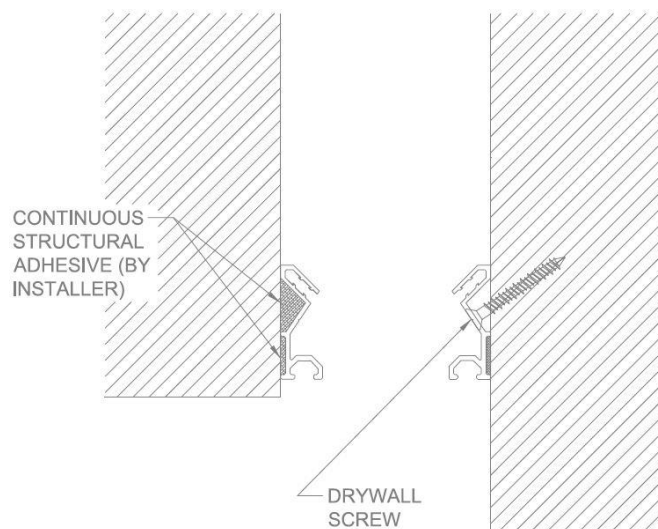

FIGURE 3
3. Apply structural adhesive (by installer) along the back side of the other extrusions prior to installation. (Follow adhesive manufacturer guidelines) Mount the extrusion to the inside surface as shown, making sure it lines up with the wall extrusion. (Also refer to shop drawings for more detail) **See Figure 3**